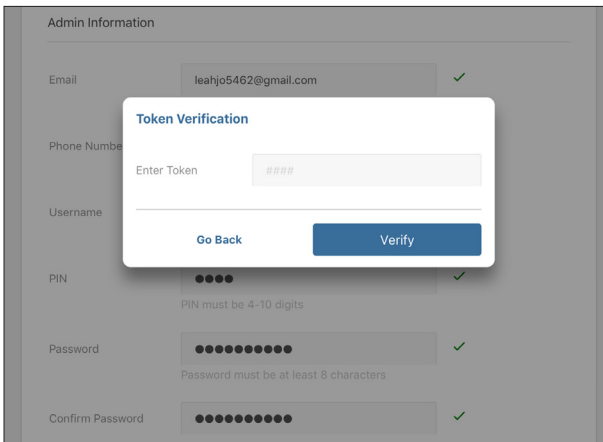

Figure 10 Token Verification screen
The new company SKALA account is created and the initial AQUALAB 3 is registered (Figure 7 through Figure 10).
A Token Verification dialog window will appear (Figure 10).
8. Enter the received Token Verification code in the Enter Token field (Figure 10).
9. Select the **Verify** button (Figure 10).